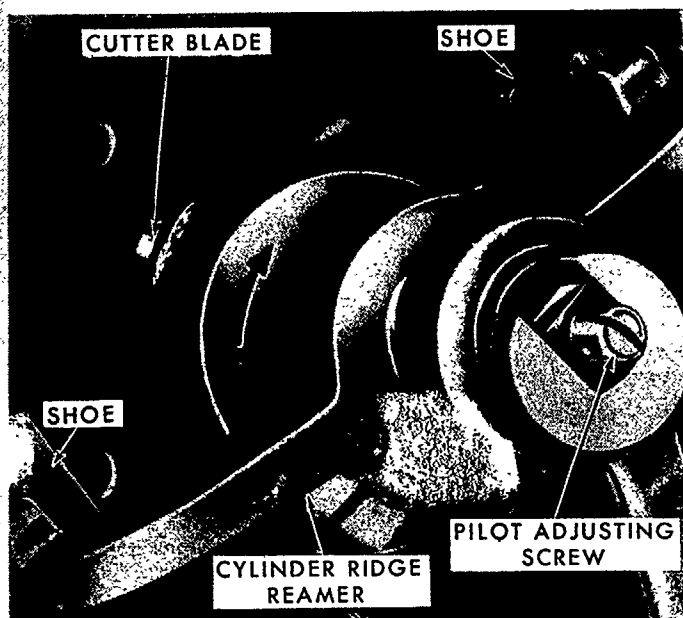

Figure 43
3. If necessary, remove the ridge from the top of each cylinder with a cylinder ridge reamer or a hand scraper, Figure 43. (Ridge removal is not necessary when reboring or if the old pistons are not to be used. However, it may be necessary to remove a ridge in order to remove an old piston). When removing the cylinder ridge do not cut down into the ring travel more than $\frac{1}{32}$ in. (0.793 mm.). It is possible to cut so deeply into the cylinder wall and so far down into the ring travel that reboring, or the installation of a new engine block is necessary. Do not attempt to remove and reuse a piston from a cylinder with an excessive ridge. Forcing the piston past the ridge may break the lands on the piston or the rings.